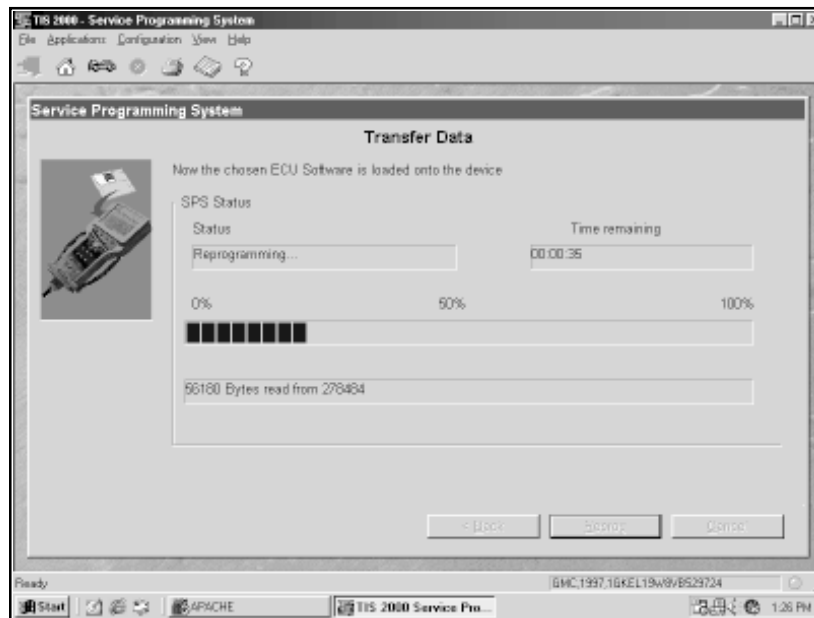

Figure I-14, Transfer Data
- 2.13 A Transfer Data screen will appear (Figure I-14). The application will automatically initiate the download of the new calibration file to the Tech 2. The screen will track the progress of the download.